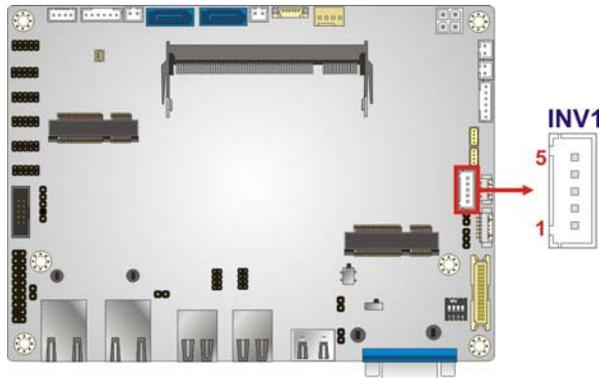

Figure 3-14: Backlight Inverter Connector Location
- CN Location: See **Figure 3-14**